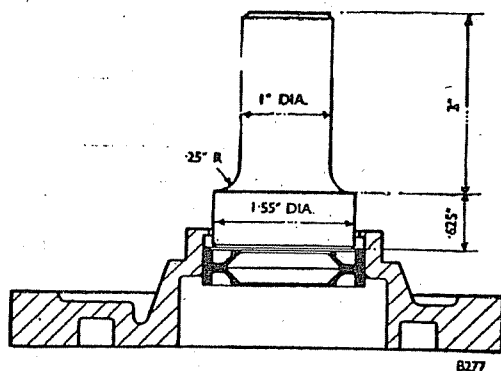

Fig. 36—Punch to remove Seals from Exhaustor.
- (1) Remove coupling and keys from shaft ends.
- (2) Remove four end cover bolts and ease off end covers. With the end cover will come the oil seals, seal back plates and springs.
- (3) To remove seals from end covers use a punch as shown in Figure 36.
- (4) Withdraw rotor, sealing plates, bearings, cam rings, blades and shaft collars from body in one assembly.
- (5) Remove blades from rotor.
- (6) Remove sealing plates.